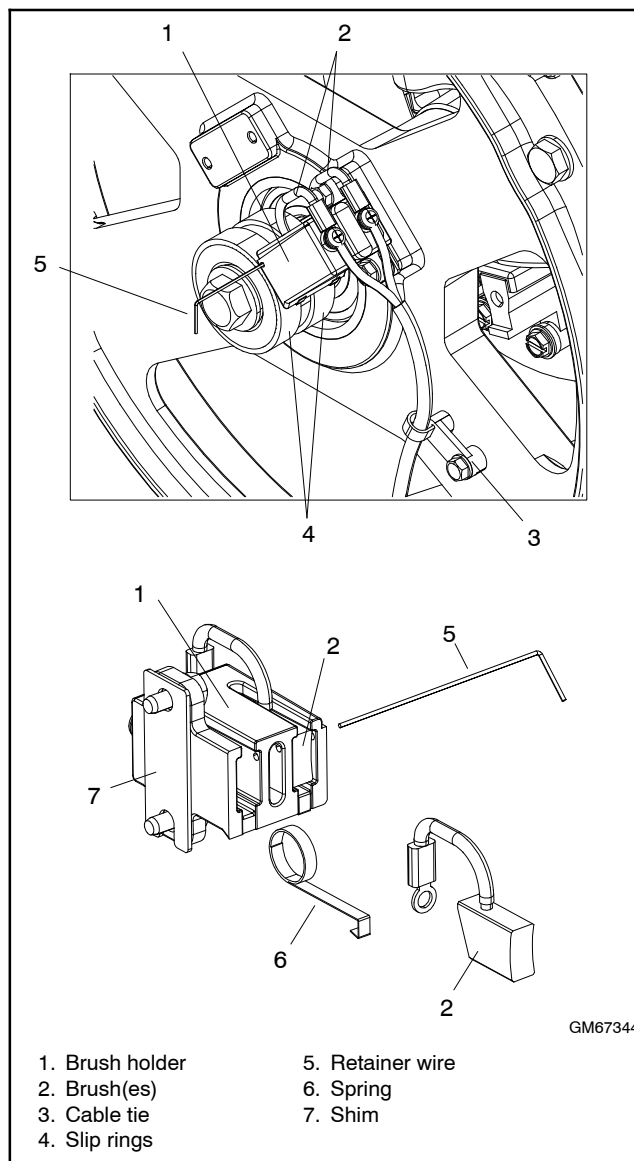
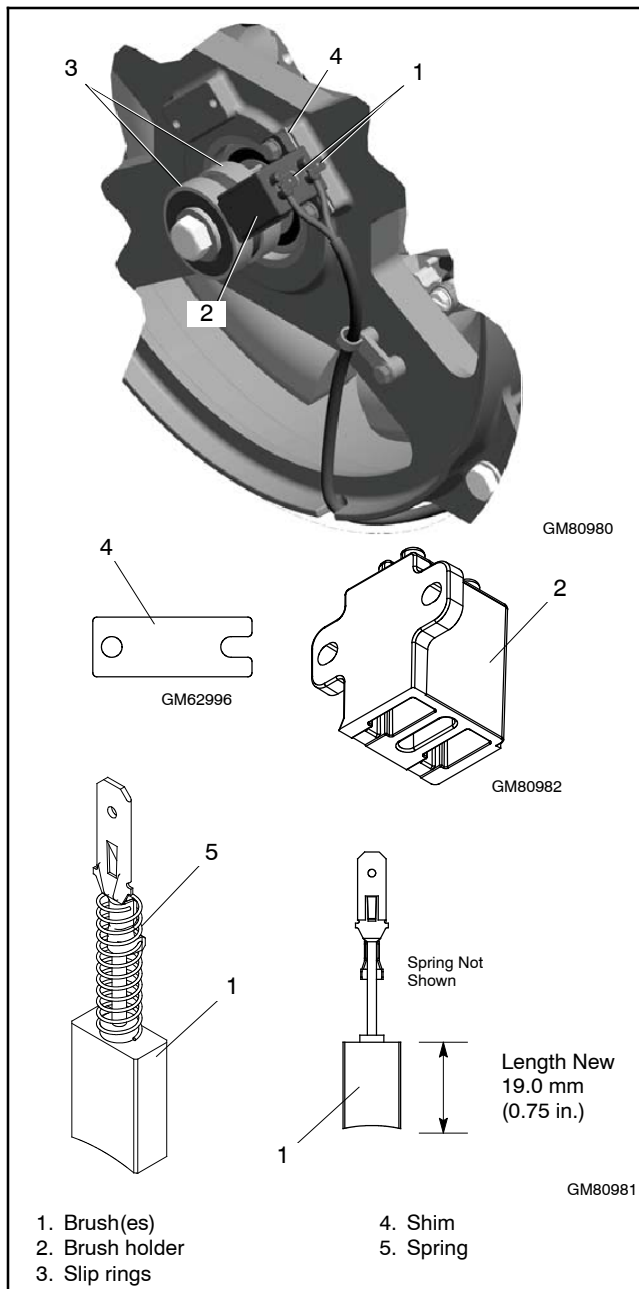

Figure 6-14 Alternator End Bracket and Brush Assembly (original)
Figure 6-15 Revised Brush Assembly
24. Remove the cable tie that attaches the brush leads to the end bracket. See Figure 6-14 or Figure 6-15.
25. Check the brushes. See Figure 6-14 or Figure 6-15.